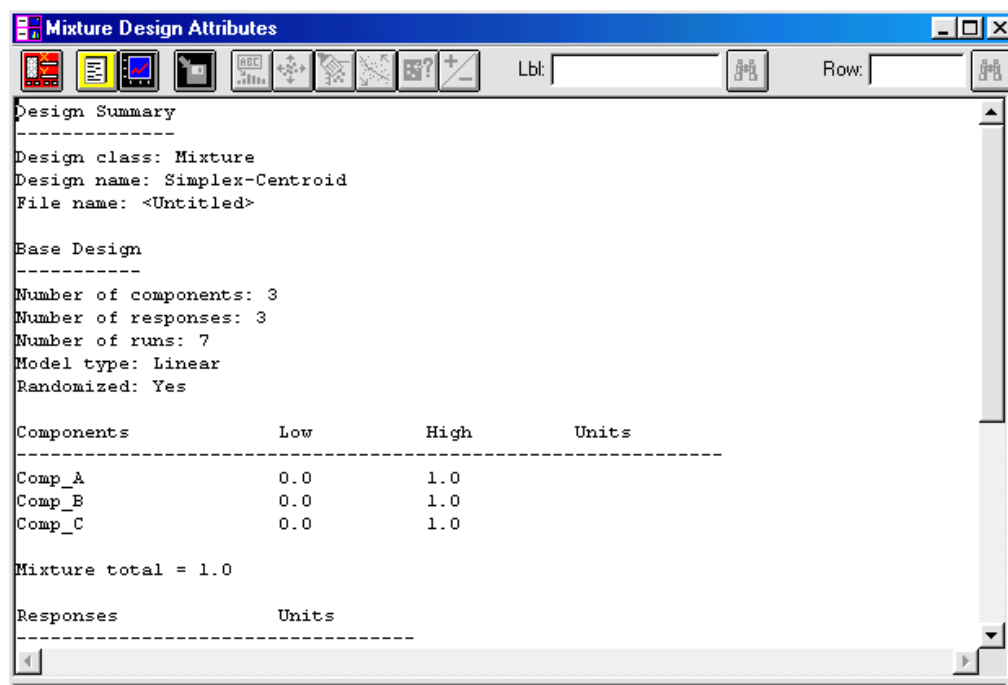

Figure 2-6. Design Summary
8. Complete the dialog box by clicking OK to accept the defaults and to display the Design Summary in the Mixture Design Attributes window (see Figure 2-6). The summary contains information about the design you created.